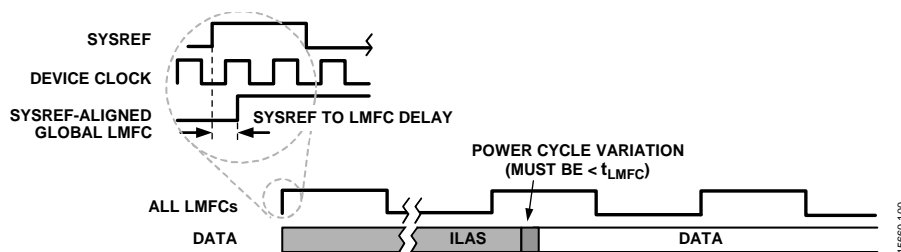

Figure 129. SYSREF± and LMFC
The JESD204B protocol organizes data samples into octets, frames, and multiframe as described in the Transport Layer section. The LMFC is synchronous with the beginnings of these multiframe. In Subclass 1 operation, the SYSREF± signal synchronizes the LMFCs for each device in a link or across multiple links (within the AD9695, SYSREF± also synchronizes the internal sample dividers). This synchronization is shown in Figure 129. The JESD204B receiver uses the multiframe
- The total latency variation across all lanes, links, and devices must be  $\leq 1$  LMFC period (see Figure 129). This includes both variable delays and the variation in fixed delays from lane to lane, link to link, and device to device in the system.